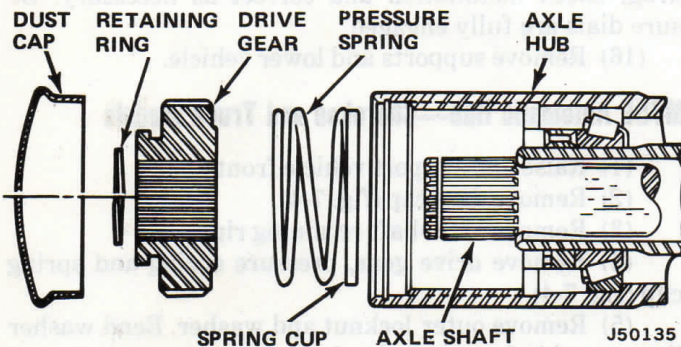

Fig. 7-4 Drive Gear—1976-79 Cherokee, J-10 Truck and 1977-79 J-20 Truck Models
(1) Remove dust cap (fig. 7-4).
(2) Remove drive gear retaining ring.
(3) Remove drive gear, pressure spring and spring cup (fig. 7-4).
- (1) Raise and support vehicle front end.
- (2) Remove dust cap (fig. 7-4).
- (3) Remove axle shaft retaining ring.
- (4) Remove drive gear, pressure spring and spring cup (fig. 7-4).
(5) Remove outer locknut and washer. Bend washer lip upward before removing locknut.